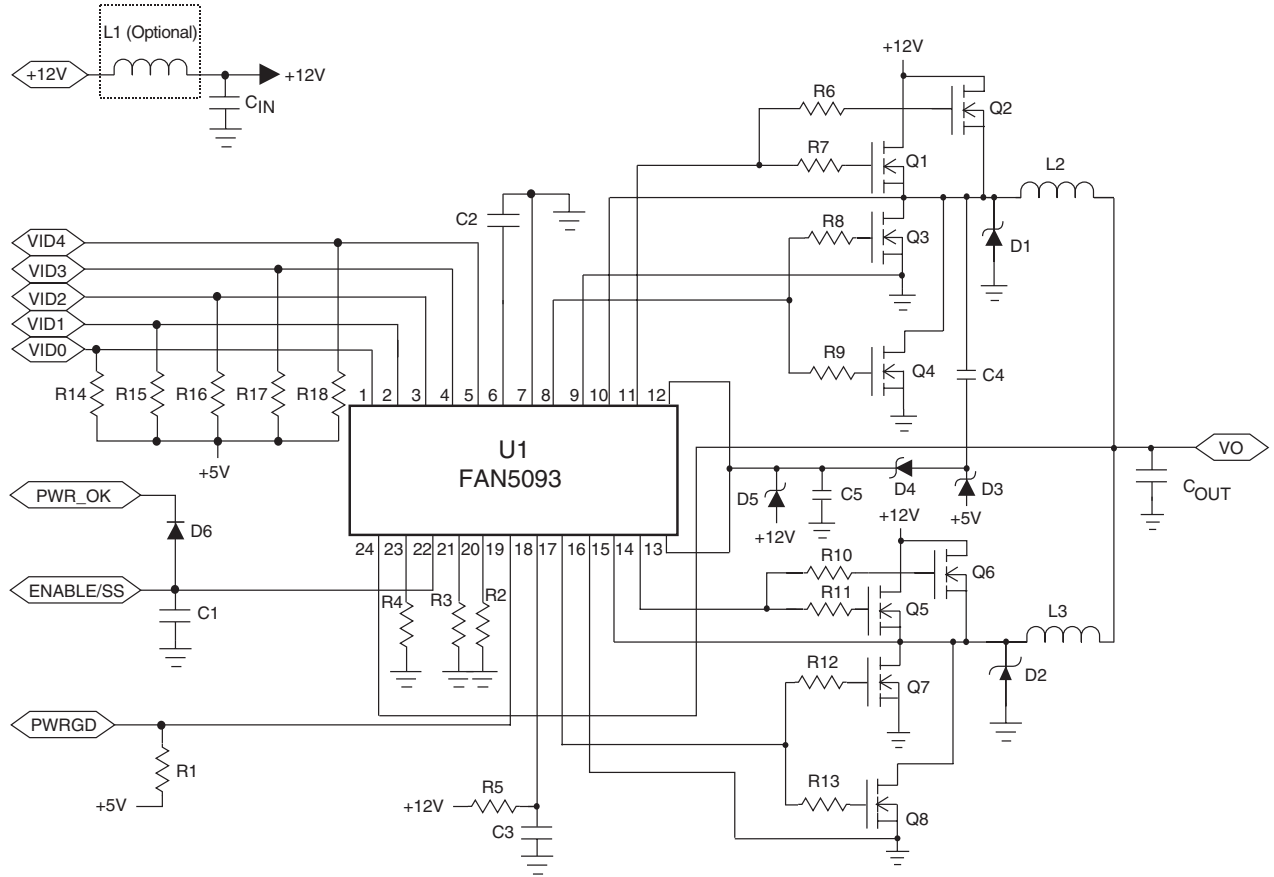

Figure 2. Application Circuit for 69A Willamette Low-Frequency Application (200KHz each phase)
( $V_{CC} = 12V$ , and  $T_A = +25^{\circ}C$  using circuit in Figure 2, unless otherwise noted.)
**Table 3. FAN5193 Application Bill of Materials for Figure 2**